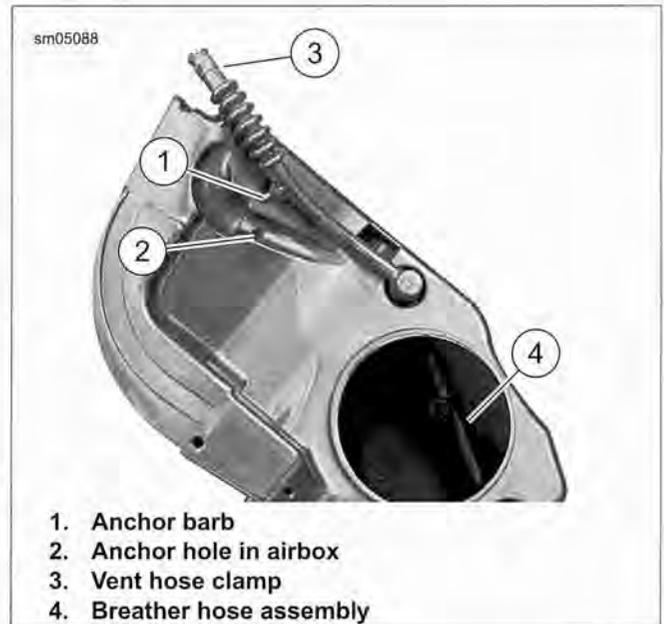
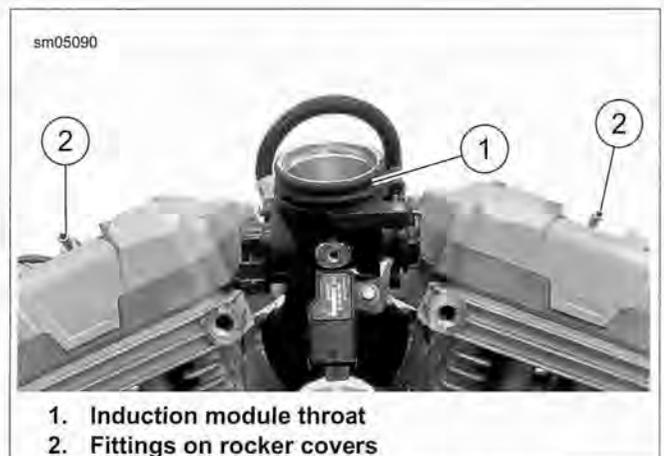

Figure 4-2. Front Crankcase Vent Hose
Figure 4-3. Airbox Connections
See Figure 4-2. Check that the breather hose assembly (4) inside the air box does not interfere with the operation of the active air solenoid flapper.
1. Install any hoses that have been removed from the air box assembly. Verify that the anchor barb (1) of the front crankcase vent hose is securely installed in the hole (2) in the air box bottom.
3. See Figure 4-3. If removed, install interface grommet on induction module. Verify that it is completely seated on the throat (1) of the induction module.
4. While holding air box in approximate installed location, connect crankcase vent hoses to the fittings (2) on the front and rear rocker covers. Verify that the clamps are in place.